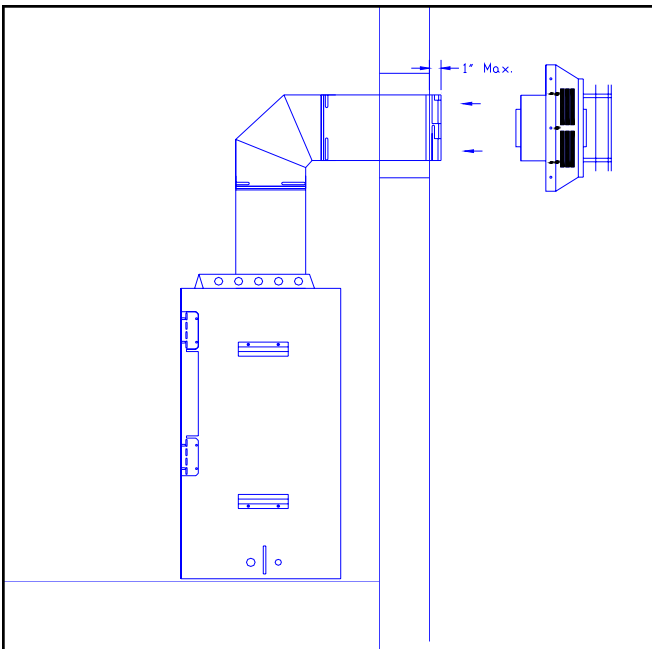

Fig. 12- Pipe Through Wall
4. Install the vertical pipe needed, followed by the elbow to achieve the pre-determined exit height and then extend the horizontal section of vent through the pre-mounted horizontal firestop. The pipe extending through the exterior wall should not extend beyond the surface, which the termination cap will be mounted to, more than 1" but needs to be at least flush with this surface (see fig. 12).